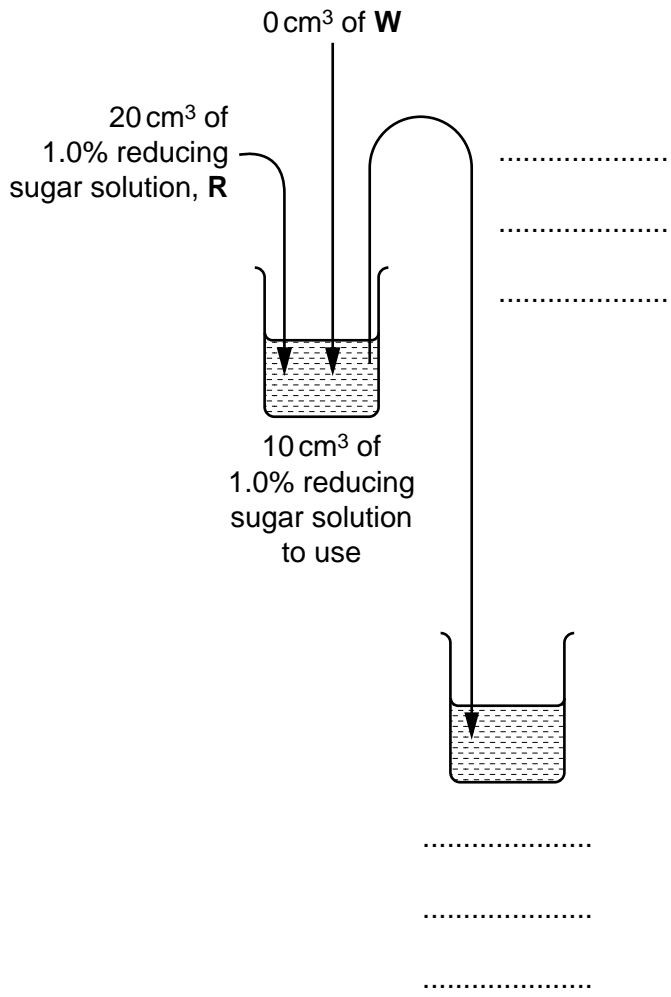

Fig. 1.2
- (ii) Complete Fig. 1.2 to show how you will prepare your serial dilution.
Fig. 1.2 shows the first two beakers you will use to make your serial dilution. You will need to draw **three** additional beakers.